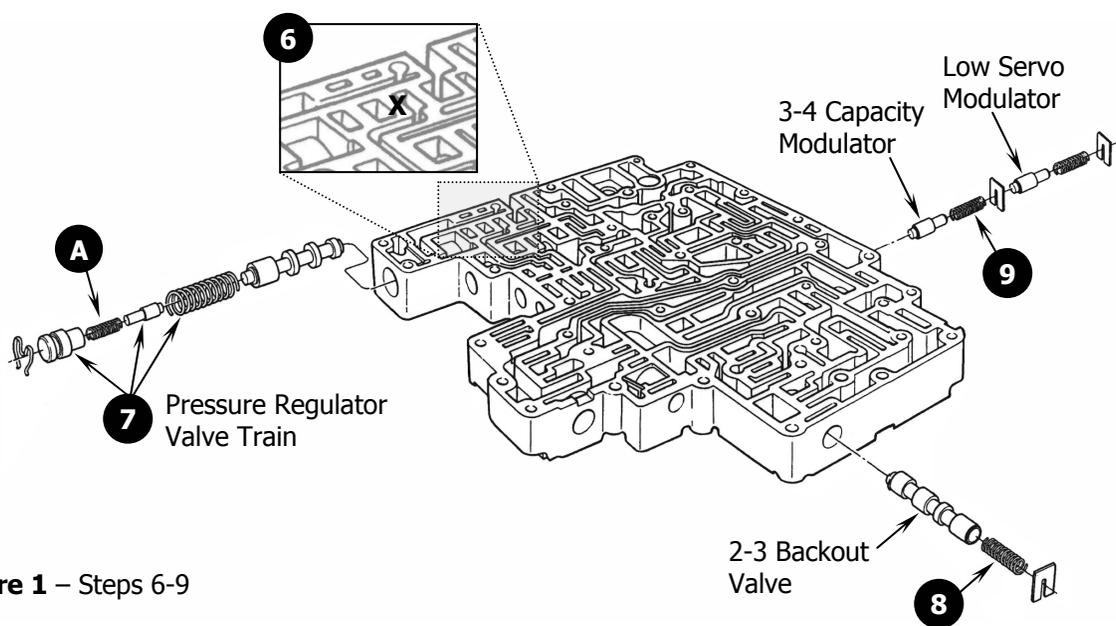

Figure 1 – Steps 6-9
Step 6. See Figure 1. Cross drill the valve body at the location marked X to connect the shaded passages using the 1/16" (.062) drill bit supplied. Thoroughly clean the valve body and filter with solvent and blow off with compressed air.